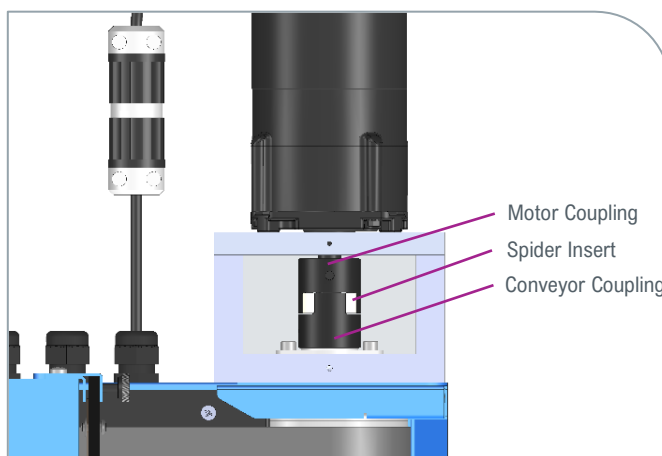

**Figure 8.** Install Motor Mount and (4) 10-32 x 5/8" Screws
2. Install new Motor Mounting Plate by installing and tightening (4) 10-32 x 5/8" SHCS screws to new Motor (Figure 8).